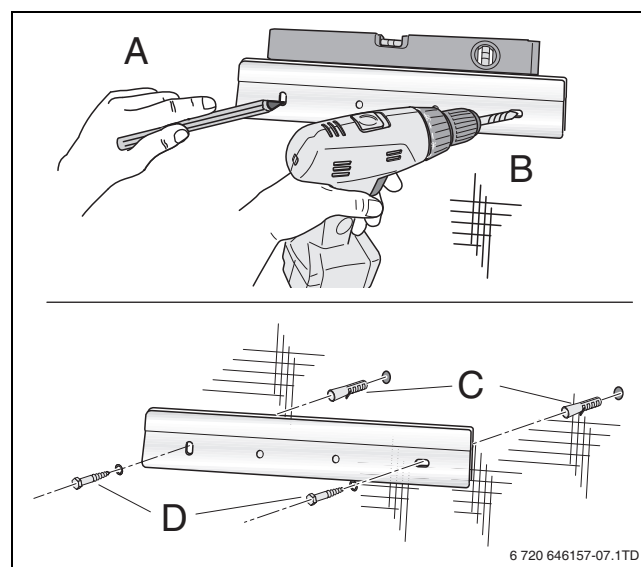

Fig. 8 Installing the wall bracket
- ▶ Mark both holes with the wall bracket (→ fig. 8) using a spirit level.
- ▶ Install the wall bracket with 2 screws (→ fig. 8).